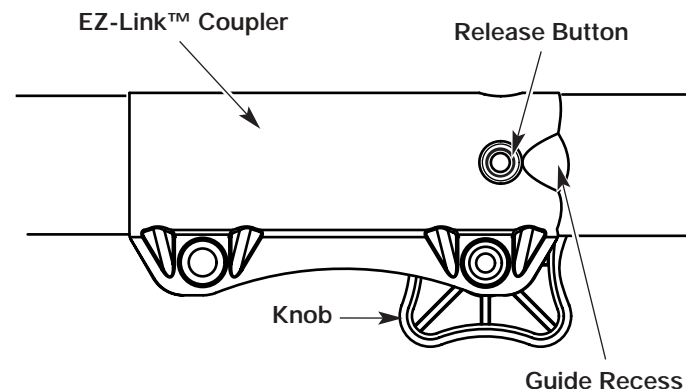

Fig. 24
1. Turn the knob counterclockwise to loosen (Fig. 24).
2. Press and hold the release button (Fig. 24).
1. Turn knob counterclockwise to loosen (Fig. 24).
NOTE: Aligning the release button with the guide recess will help installation (Fig. 24).
3. Turn the knob clockwise to tighten (Fig. 24).